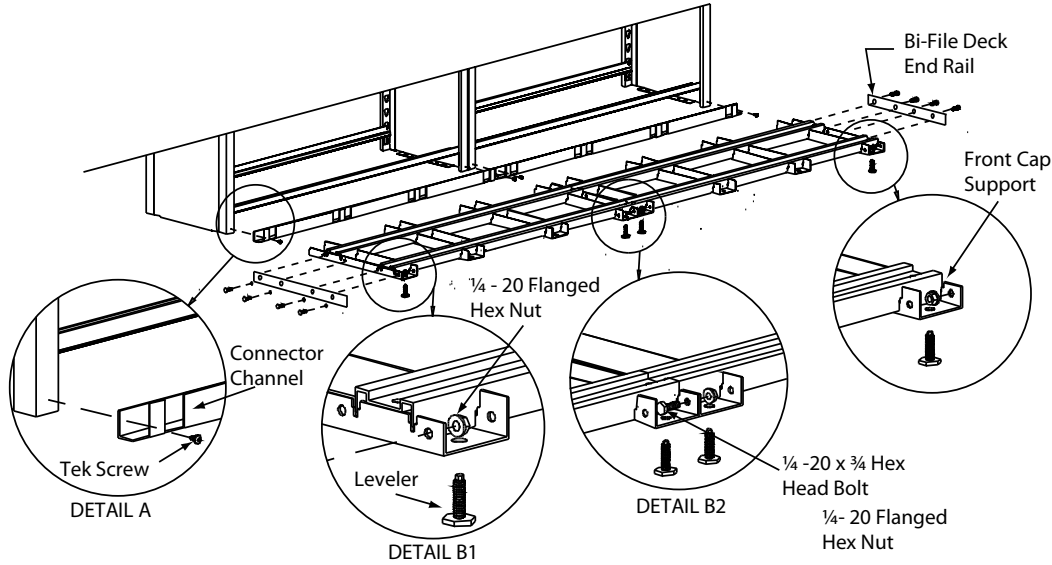

FIGURE 2
- STEP 1 Install Levelers in Deck sections making sure that each one is screwed in and is flush with the bottom of the Deck. See Figure 2, Detail B1
- STEP 2 Position Connector Channels on the front bottom of each stationary base; make sure sides are flush with upright posts. Attach each Connector Channel to the post uprights on the stationary shelving using #10 x 1/2 Tek screws. See Figure 2, Detail A
- STEP 3 Attach the assembled Deck sections to the Connector Channels. The Deck assembly will have corresponding slots which will secure to the Connector Channel. See Figure 2
- STEP 4 Join Decks together by using 1/4-20 x 3/4 hex head bolts and flange nuts. The number of fasteners will vary due to system size. The Deck sections will have corresponding holes for attaching side to side. See Figure 2, Detail B2 .
- STEP 5 Secure Bi-File Deck End Rails to both sides of the Deck assemblies by using four (4) 1/4-20 x 3/4 hex head bolts and flange nuts. See Figure 2 .